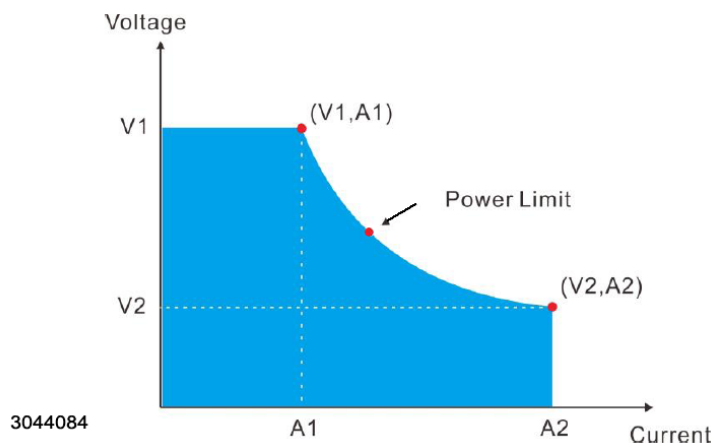

FIGURE 1-3. KLN EXT VOLTAGE AND CURRENT PARAMETERS USED IN TABLE 1-2
Table 1-2 below indicates specifications that vary for different KLN EXT models; Figure 1-3 illustrates the voltage and current parameters used in Table 1-2. Table 1-3 lists general specifications that apply to all KLN EXT models.
- Refer to Figure 1-3 for a graphical representation of V1, V2, A1 and A2.